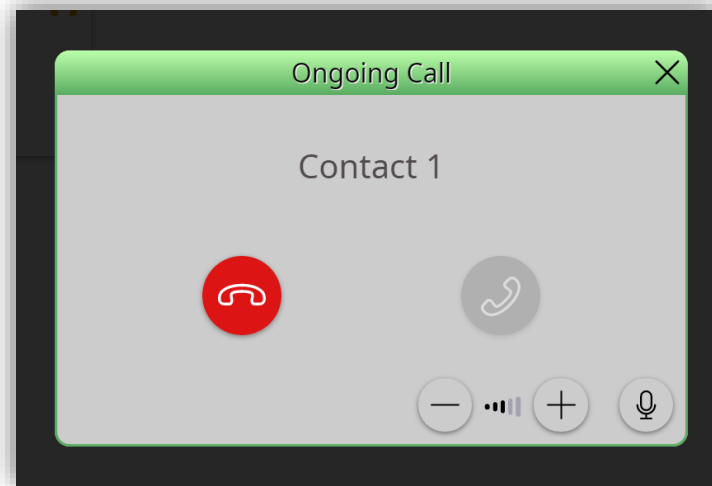

Figure 126. Ongoing call
- **Accept call:** opens ongoing call dialogue (Figure 126) initiating the audio communication.
When accepting an incoming internal call, the interface in Figure 126 will be displayed.